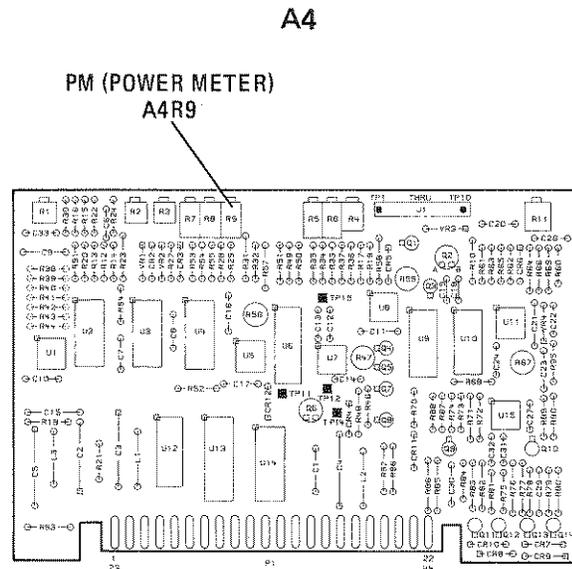

Figure 5-33. Power Meter Adjustment Location
3. Increase the 83525A power level until the 432A power meter reaches full scale deflection (approximately  $+6$  dBm). Adjust **A4R9 (PM)** (Figure 5-33) until the 436A Power Meter indication is equal to the plug-in front panel readout minus the power splitter insertion loss noted in step 1 (approximately 6 dB).